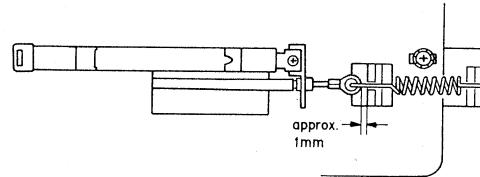

Fig. 5.15.2
- (3) Set the N-580M in record and pause mode. Check to insure that the gap between the top of the wire and the Record Spring Holder is approx. 1 mm as shown in Fig. 5.15.2. (Check that the Record Switch is in record position.)
- (4) Upon completion of the above adjustments, apply a quantity of lock tight paint.